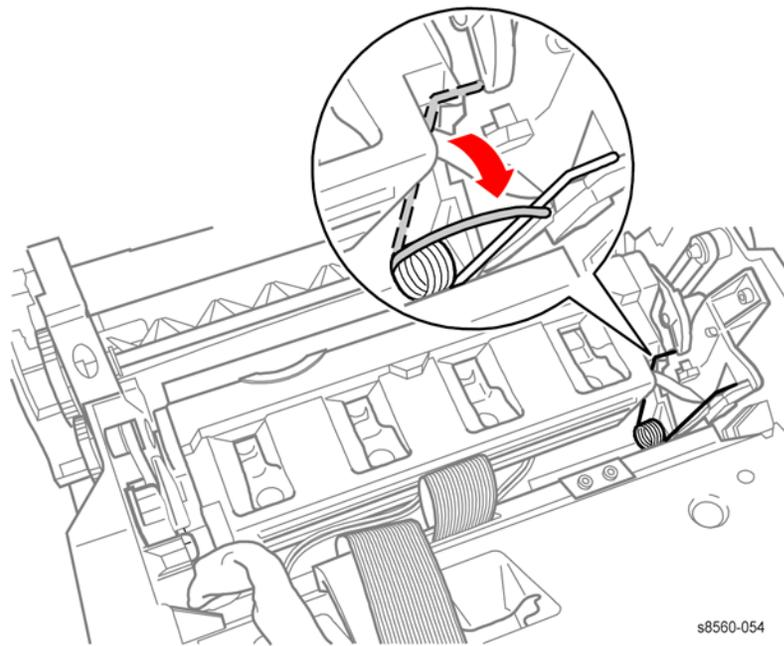

Figure 3 Releasing the Printhead Tilt Spring.
9. Move the Printhead Tilt Spring from its position on the Printhead and hook it behind itself as shown in Figure 3.